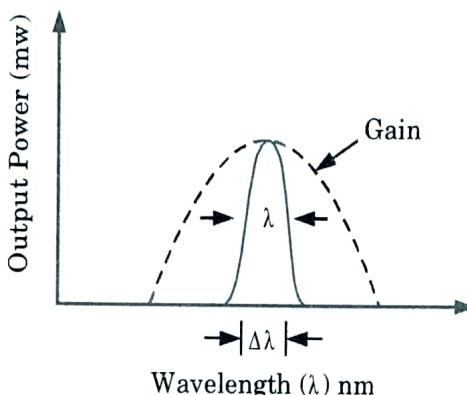

Fig. 3.15.2. Actual single mode radiation of DFB Laser diode.
5. The final output of the DFB laser diode is the wave of wavelength λ_B containing the radiation of only single longitudinal mode and as a result, the spectral width of this radiation is extremely narrow, as shown in Fig. 3.15.2.